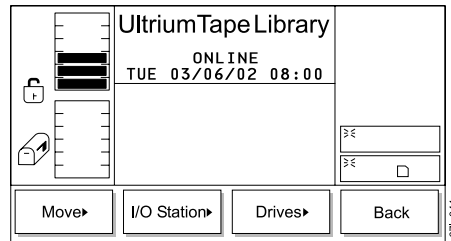

Figure 186. Command Menu
1. From the Main Menu's initial screen, press the button below the **Command** softkey. The Command Menu displays (see Figure 186).